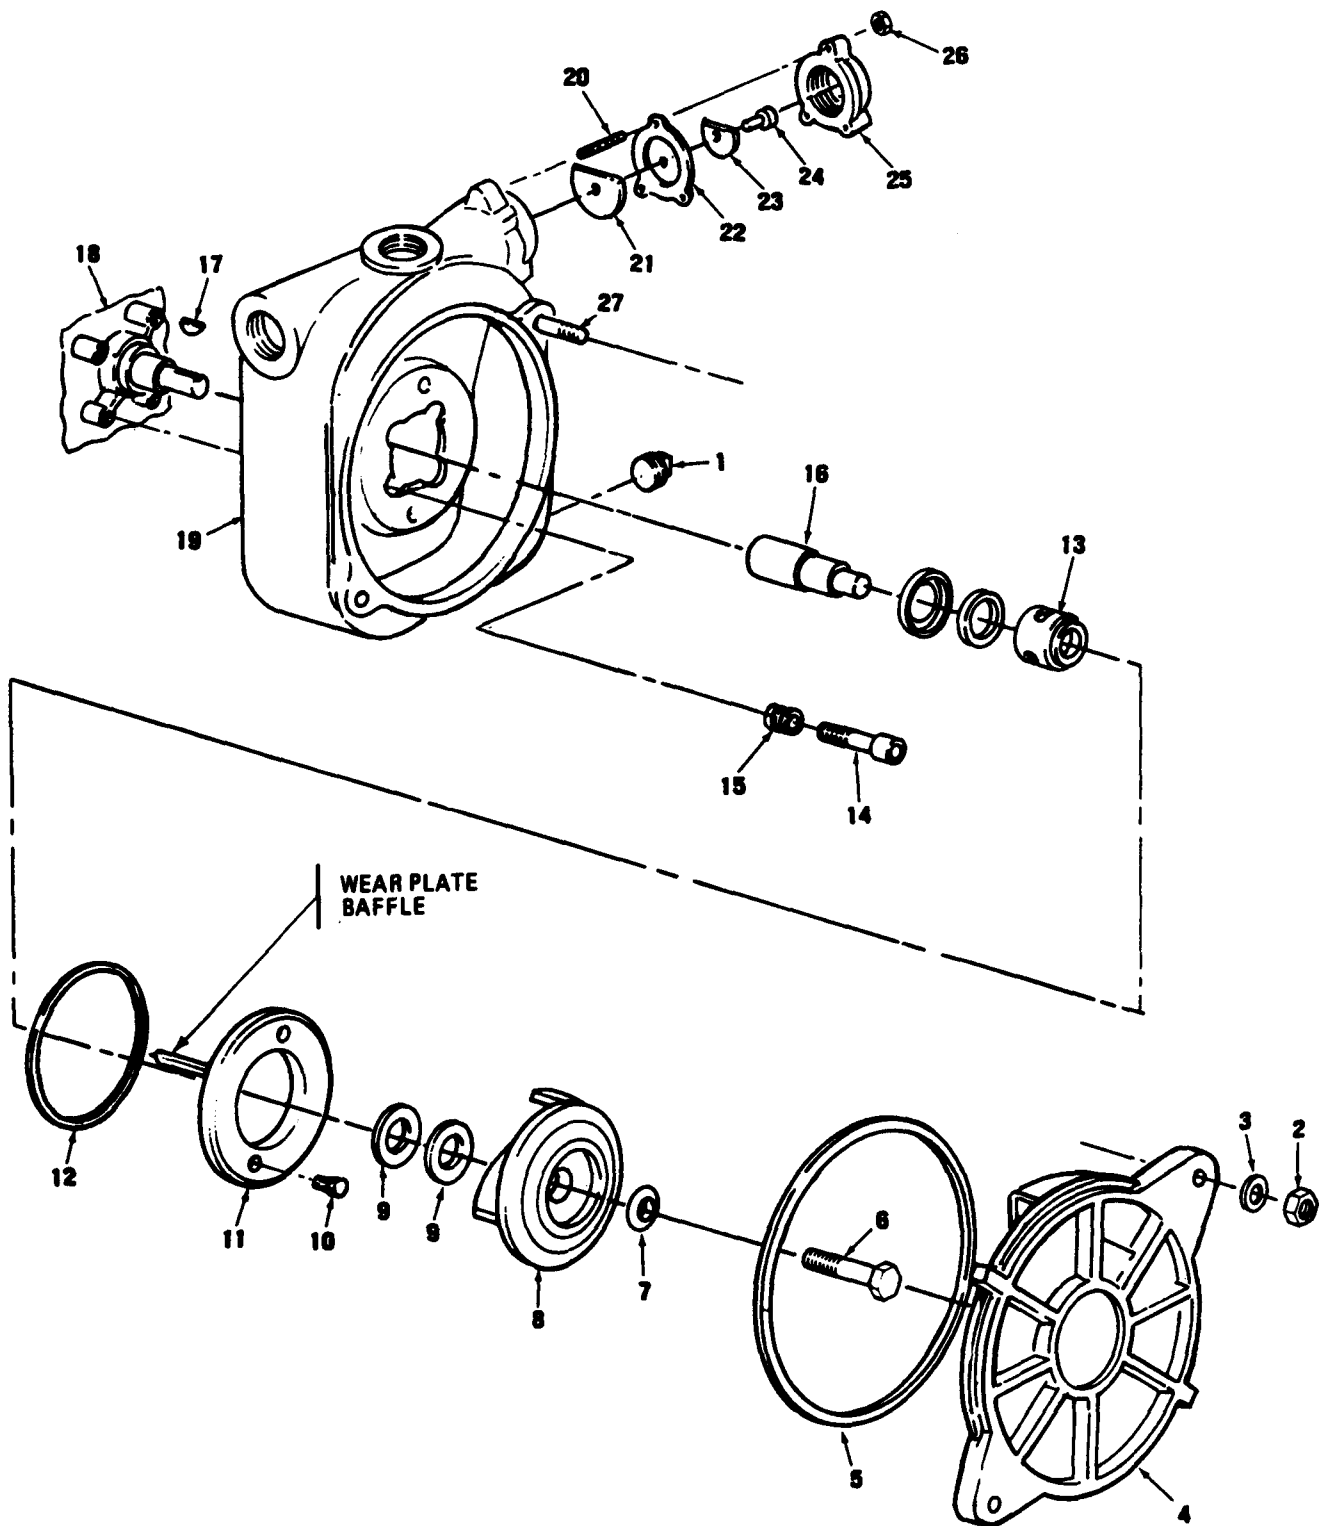

Figure 6-11.1. Centrifugal Pump and Check Valve.
b. Disassembly. (figure 6-11.1)
(1) Remove pump drain plug (1) and drain into suitable container.
(2) Remove nuts (2) and washers (3) and remove volute (4) and O-rings (5).
(3) Remove center screw (6) and seal (7).
(4) Remove impeller (8) by unscrewing counterclockwise while holding shaft stationary. Hold armature shaft stationary with screwdriver in slot.
(5) Remove shims (9), screws (10) and wear plate (11).
(6) Remove O-Ring packing (12) and seal assembly (13).
(7) Extract four screws (14) and compression inserts (15), remove pump from motor.
(8) Remove adapter shaft (16) and Woodruff key (17) from motor shaft (18).
(9) Remove nuts (26), suction flange (25), screw (24), small weight (23), gasket (22), large weight (21) and studs (20 and 27) from pump case (19).
d. Reassembly (Figure 6-11.1)
(1) Attach studs (20 and 27) to pump case.
(2) Install large weight (21), gasket (22), small weight (23), screw (24), suction flange (25) and nuts (26).
(3) Install key (17) and attach pump (19) to motor with four screws (14) and new compression inserts (15). Torque evenly to 32 ft. lbs. (36.90 cm. kg).
(4) Install adapter shaft (16) onto armature shaft. Seat stationary seal into Rubber Seal and slide onto adapter shaft and pump cavity. Install Rotating Seal over adapter shaft (see figure 6-11.1)
When the Seal, Assembly, Shaft is ordered, an alternative configuration of the Rotating Seal may be received. The uncaged spring and carbon seal is fit and functionally the same as the caged Rotating Seal, and is installed in the same way. An illustration of the Alternate Rotating Seal is included in Figure 6-11.1.
(5) Lubricate and install O-Ring packing (12, Figure 6-11.1) onto wear plate (11).
(6) Install wear plate (11) and screws (10). (Inspect for bent or defective baffle on back side of wear plate).
(7) Install shims (9) as required to maintain impeller-to-wear plate clearance at 0.010 to 0.015 inch (0.025 to 0.038 CM).
(8) Install impeller (8), new retaining packing (7) and center screw (6).
(9) Lubricate and install O-Ring (5), volute (4) and fasten with washer (3) and nut (2).
(10) Connect inlet elbow, discharge elbow, and priming port.
(11) Install pump drain plug (1).